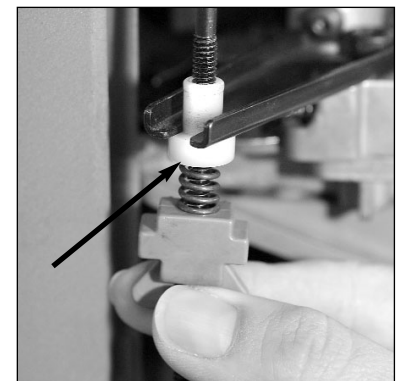

FIG 51
4. Slide the failsafe rod into the failsafe return bracket. Push the shoulder washer up into place (arrow **FIG 51**) and tighten the blue plastic wing nut until the end of the threaded rod is even with the wings of the wing nut.